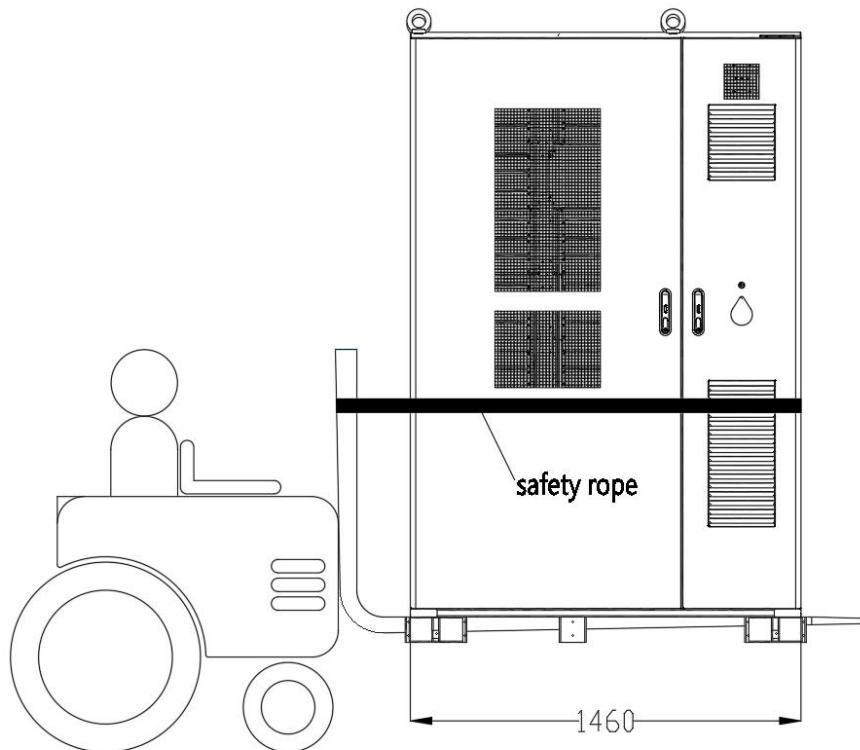

Figure 4-1 Side loading diagram of the energy storage cabinet (can only be inserted from the battery compartment side)
- The forklift can be inserted around the enclosure, and the forks of the forklift should be inserted to the full depth of the enclosure. The forklift diagrams are shown in Figures 4-1, 4-2, and 4-3;
- It is recommended to prioritize side loading for the energy storage cabinet, as shown in Figure 4-1;